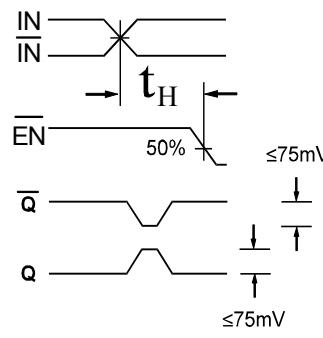

Figure 2. Hold Time
- The hold time is the minimum time that \bar{EN} must remain asserted after a negative going IN or a positive going \bar{IN} to prevent an output response greater than $\pm 75 mV$ to that IN/ \bar{IN} transition (see Figure 2).